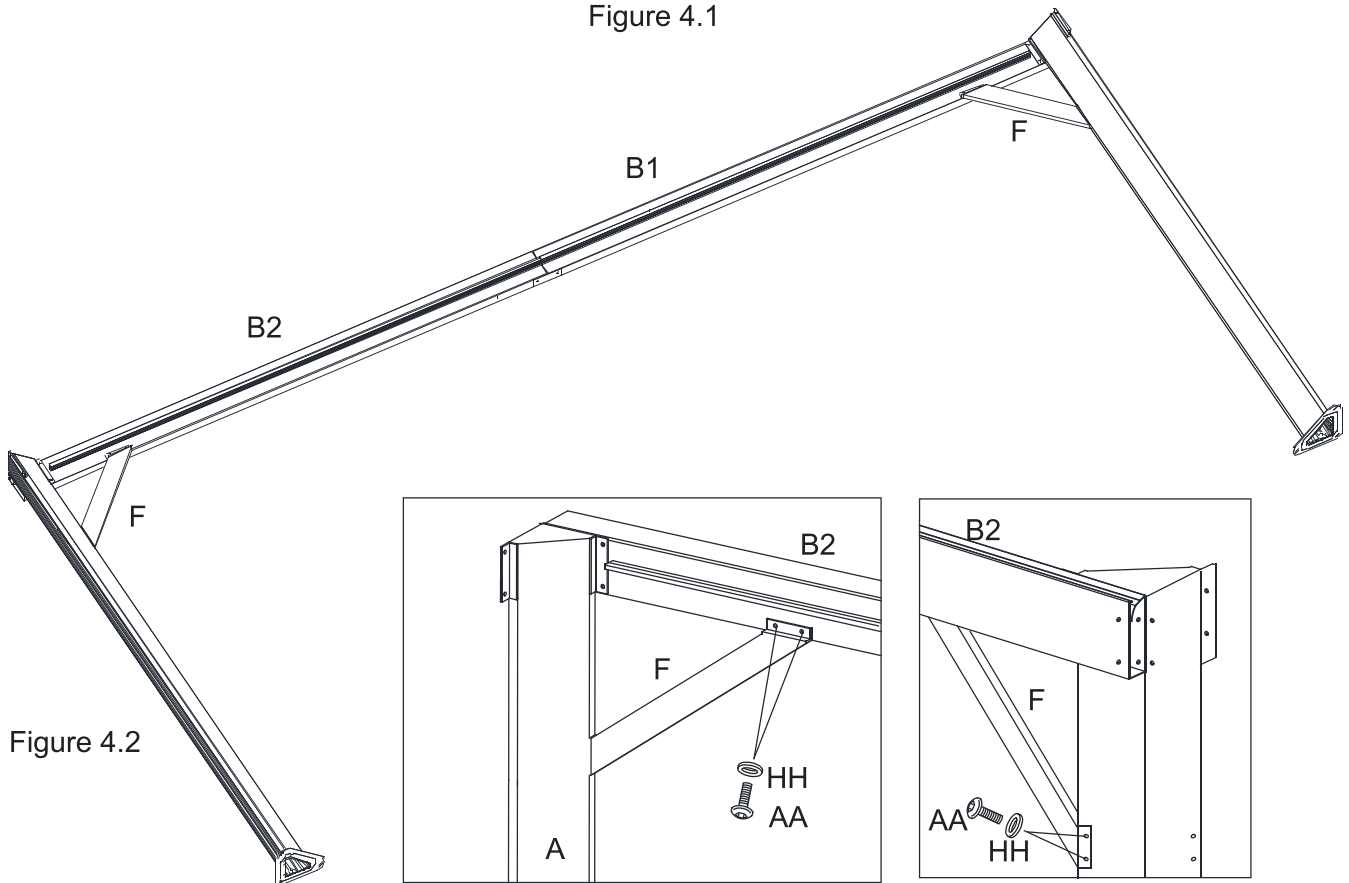

Figure 4.2
4.2: Repeat for opposite side Lintels (B1 and B2) and Corner Posts (A). See Figure 4.2.